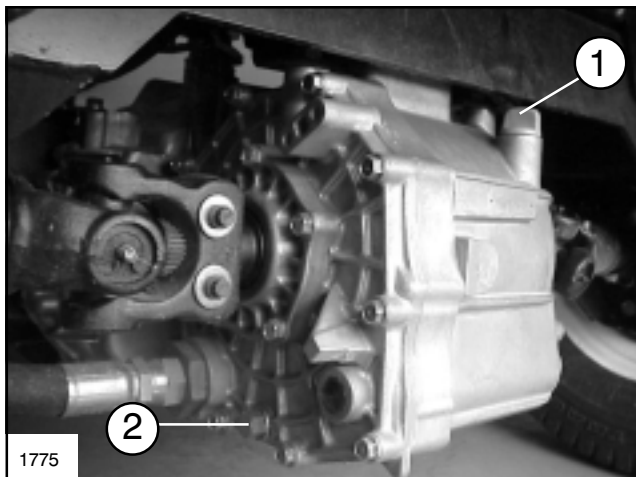

FIG. 6
2. Clean area around dipstick. (See FIG. 6)